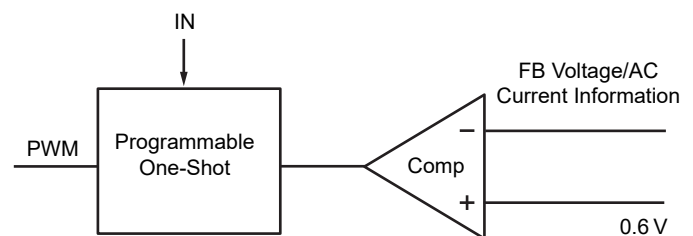

Figure 2. Simplified Control Schematic of AOZ2153LQI-30
The control algorithm of AOZ2153LQI-30 is constant-on-time PWM control with input feed-forward. The simplified control schematic is shown in Figure 2. The high-side switch on-time is determined solely by a one-shot whose pulse width is inversely proportional to input voltage (IN). The one-shot is triggered when the internal 0.6V is higher than the combined information of FB voltage and the AC current information of inductor, which is processed and obtained through the sensed low-side MOSFET current once it turns-on. The added AC current information can help the stability of constant-on time control even with pure ceramic output capacitors, which have very low ESR. The AC current information has no DC offset, which does not cause offset with output load change, which is fundamentally different from other V^2 constant-on time control schemes.